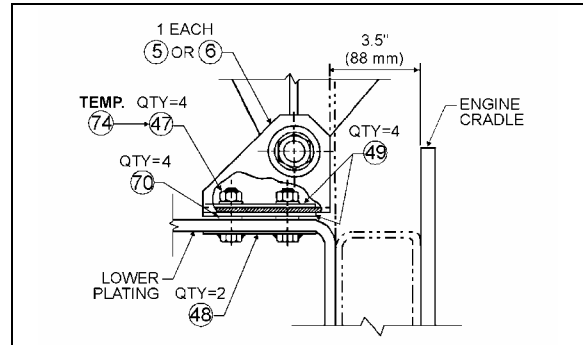

FIGURE 18: ANGLE SUPPORT
1. Install both attachment assembly plates (P/N 051779) (48, Fig. 18) through lower plating and secure with four spring nuts (P/N 500666), (70, Fig. 18). Then install one spacer (P/N 050705), (49, Fig. 18) on each spring nut at both anchoring locations (Fig. 18).
assembly with two nuts (P/N 500709), (74, Fig. 18) at both anchoring locations.
5. Check alignments again (steps 2, 3 & 4) then replace temporary anchoring nuts (P/N 500709) (74, Fig. 18) with four nuts (P/N 500714) (47, Fig. 18) and tighten using a wrench.